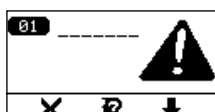

Figure 32
9. If a sensor failed to activate, the following screen will be displayed (Figure 32). If this occurs, ensure that the tool is placed at the correct position around the tire and retry the sensor activation by pressing the Learn  button.